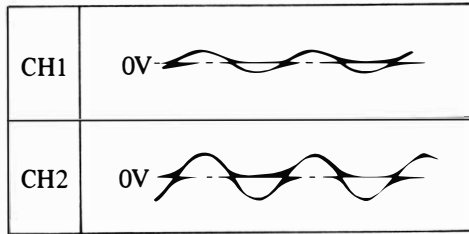

Fig. 2
When either the CH1 or CH2 input signal is smaller as shown in Fig.2, adjust the VOLTS/DIV switches (13) and (14) to obtain sufficient amplitudes.